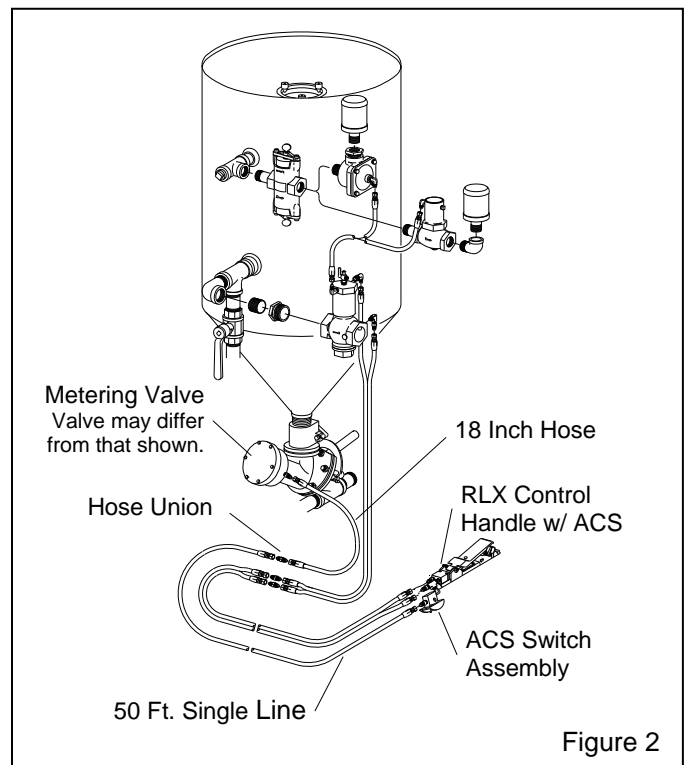

Figure 2
**1.3.3** Additional parts used with optional ACS cut-off systems are shown in Figure 2. ACS systems include a 50 ft. single line hose, and additional 18-in. long interconnecting hose, an RLX Control handle with ACS air switch assembly, and a pneumatically operated metering valve. The metering valve supplied with the system may differ from that shown. NOTE: Instructions and replacement parts are in the manual supplied with the metering valve.
**2.3 Optional ACS set up Ref. Figure 2.** If the remote control does not have the ACS feature skip to Section 2.4.